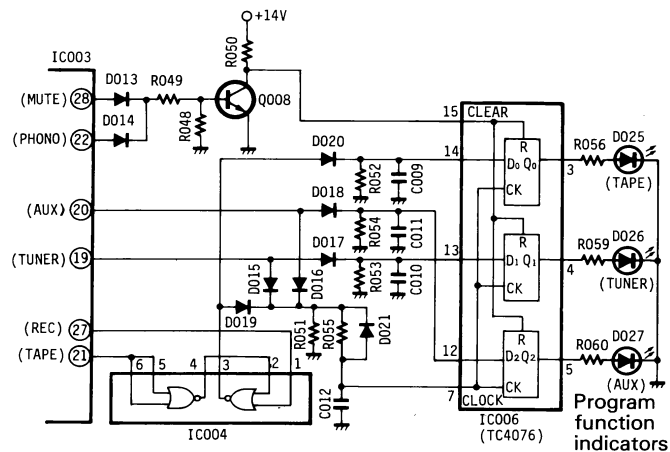

Fig. 10
In Fig.10 IC006 (TC4076) functions in accordance with the truth value table of Table 4. While CLEAR pin ⑮ is high or , in other words, when both IC003 MUTE pin ⑳ and PHONO pin ㉒ are low, IC006 output pins ③ ~ ⑤ are set low and the program function indicators go off.